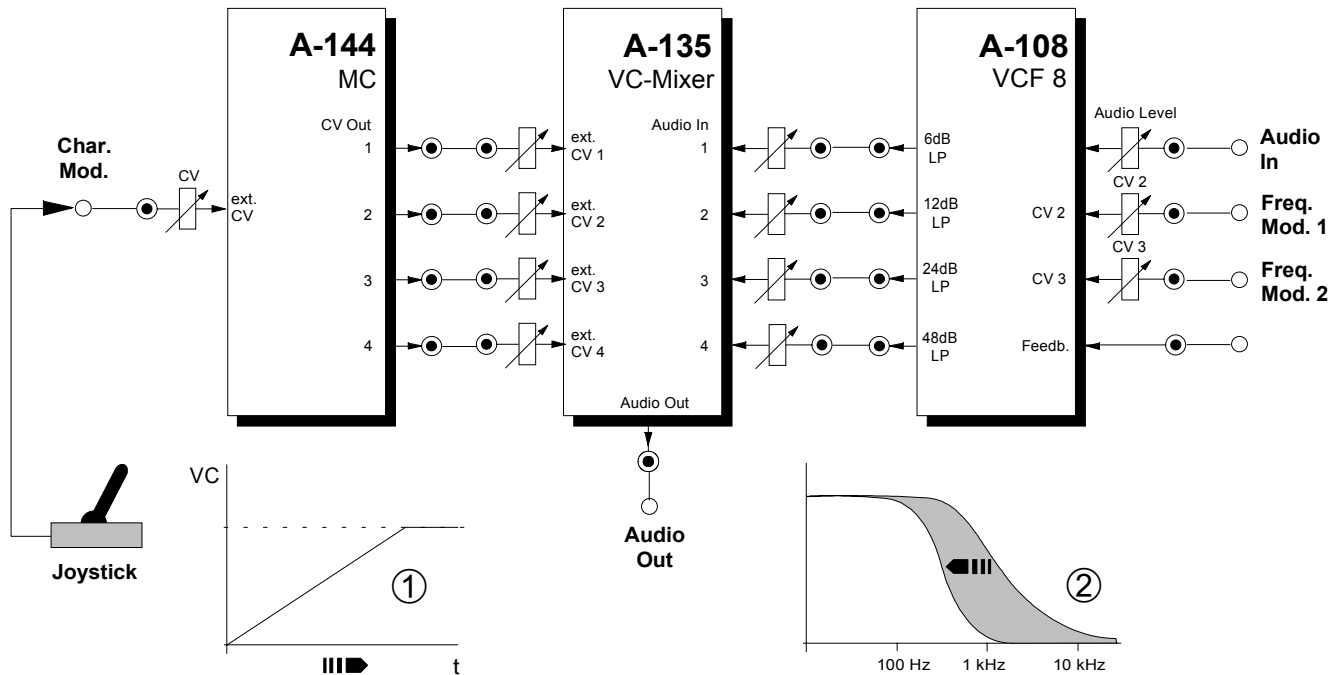

Fig. 5: Low pass filter with voltage controlled cut-off slope
Another example is a **filter with voltage controlled cut-off slope** in combination with the voltage controlled mixer A-135 and the morphing controller A-144. Fig. 5 shows the corresponding patch.
The control voltage that is used to control the cut-off slope is connected to the control voltage input of the morphing controller A-144. That way it is possible to sweep the cut-off slope from 6 ... 48dB (fig. 5, ②) with the control voltage applied to the CV input of the A-144. In the example the voltage is generated by a joy stick (A-174) and called "character modulation". Of course any other control voltage (e.g. LFO, ADSR, MIDI-to-CV, Theremin, Random) could be used to control the "character", i.e. the cut-off slope. For more examples please refer to the A-144 user's manual.
The patch in fig. 5 has these control inputs available: